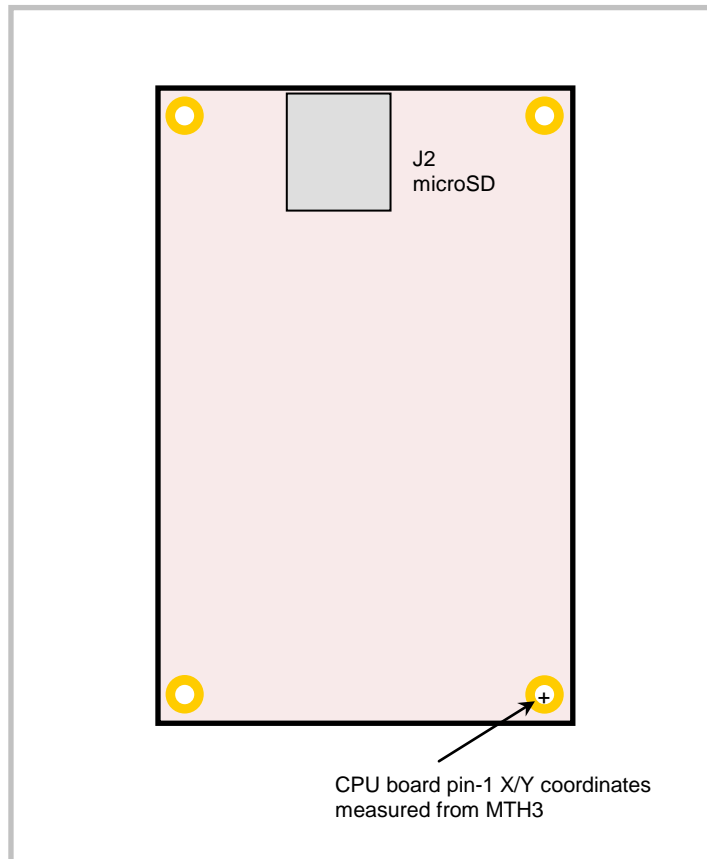
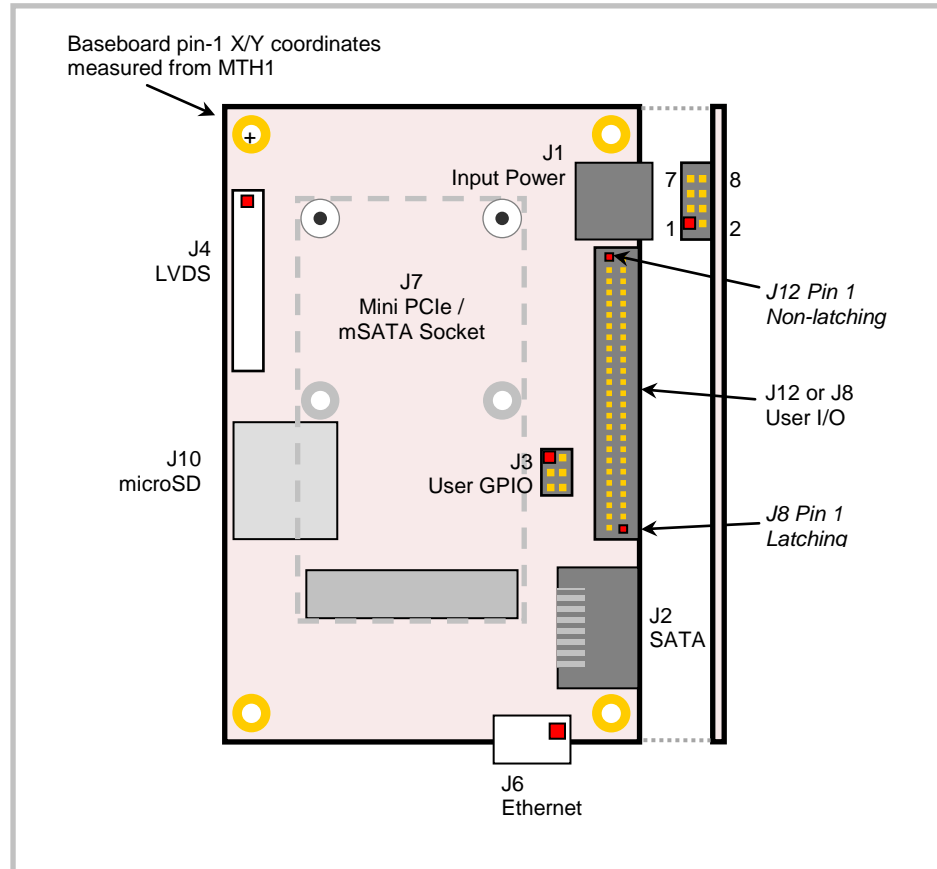

Figure 9. Connector Locations (CPU Module)
Figure 10. Connector Locations (Baseboard)
2. Coordinates are measured on the baseboard from the mounting hole on the upper left as shown in Figure 10 and on the CPU board from the lower right mounting hole as shown in Figure 9. All measurements in millimeters.